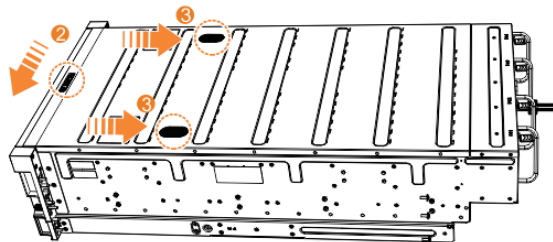

Figure 145. Replacing the top cover
7. Push the cover release lever to the side (2) as shown in Figure 145 on page 181.
8. Slide the cover towards the back of the enclosure (3) back until it stops, as shown in Figure 145 on page 181.